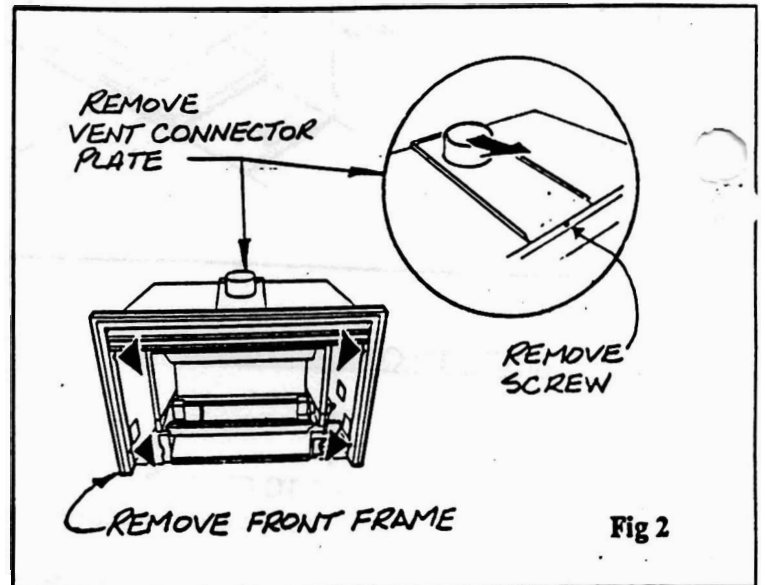

Fig 2
3. Unpack heater and remove the front frame (refer to Fig. 2) Remove the vent connector plate from the top of the heater by removing the screw located at the top perimeter flange of the heater (refer to Fig.2.) Remove the gas line access panel from the right hand rear corner of the heater and note it's position carefully as this is where the gas line rough in will have to correspond to.